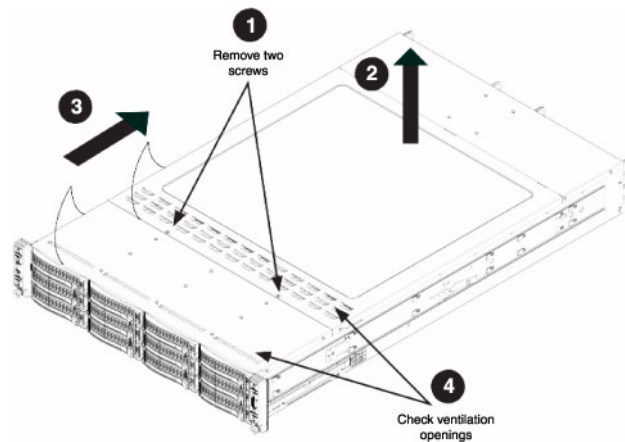

Figure 5-1 Removing the Chassis Cover
1. Remove the two screws which secure the top cover onto the chassis as shown in Figure 5-1.